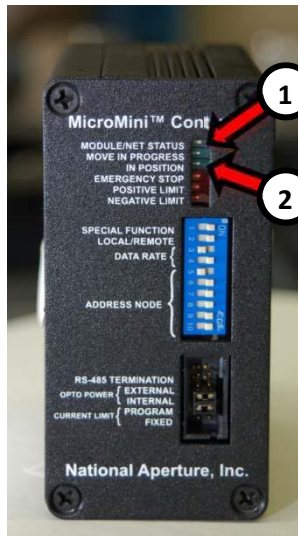

Figure 8-13: MVP Motor Controller
8. **Verify that the Motor Controllers are not in an error state** – Check the status LED’s on the Motor Controllers (Figure 8-13).